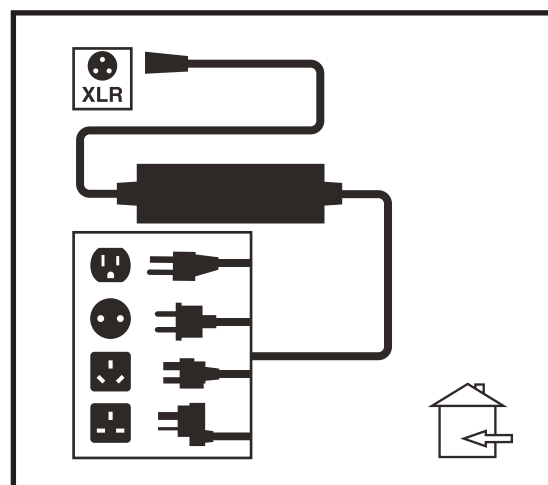

Figure 15. Battery Charger
3. Plug the off-board charger into the off-board charger/programming socket on the controller. **See figure 15.**